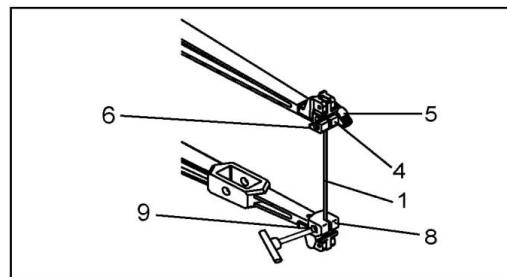

Fig. 13
2. Loosen the upper blade holder (4) by turning the quick release knob (5) counterclockwise. (Fig. 13)
3. Tilt the table to 0° and tighten the bevel knob (7) (Fig. 2). Loosen the pin (9) with a T-handle hexagon wrench under the table on the left side of the lower blade holder (8) by turning counterclockwise. (Fig. 13)